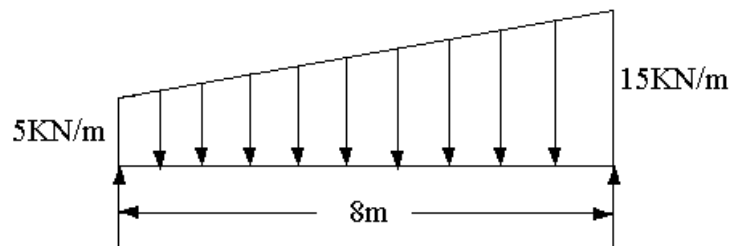

Figure 4
4. Obtain the S.F.D. & B. M d and find the maximum values for the beam loaded as shown in Figure 4. [16]